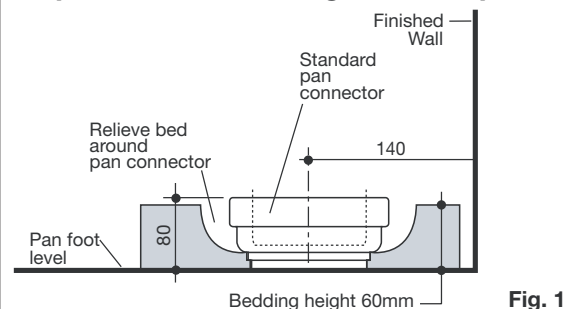

Fig. 1
The 'S' and 'P'-Trap pan installations are detailed in Fig 1 & 2. The recommended set-out for 'S'-Trap installations is 140mm from the finished wall. **It is important to position the pan collar 80mm Max. from the foot level of pan as detailed in Fig. 1.**
- 3- Prepare bedding sand cement mixture 3:1 to depth of 60mm as detailed in Fig.1. **Note:** Do not fill the foot of the pan with bedding mix or include lime or fast drying cement into the mix, these may cause cracking in the foot of the pan.